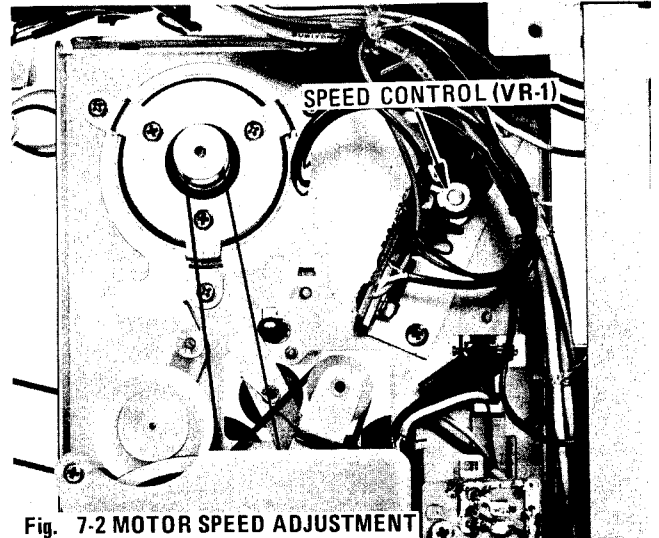

Fig. 7-2 MOTOR SPEED ADJUSTMENT
3. To adjust: VR-1 the semi-fixed resistor control for the motor speed adjustment. see Fig. 7-2.